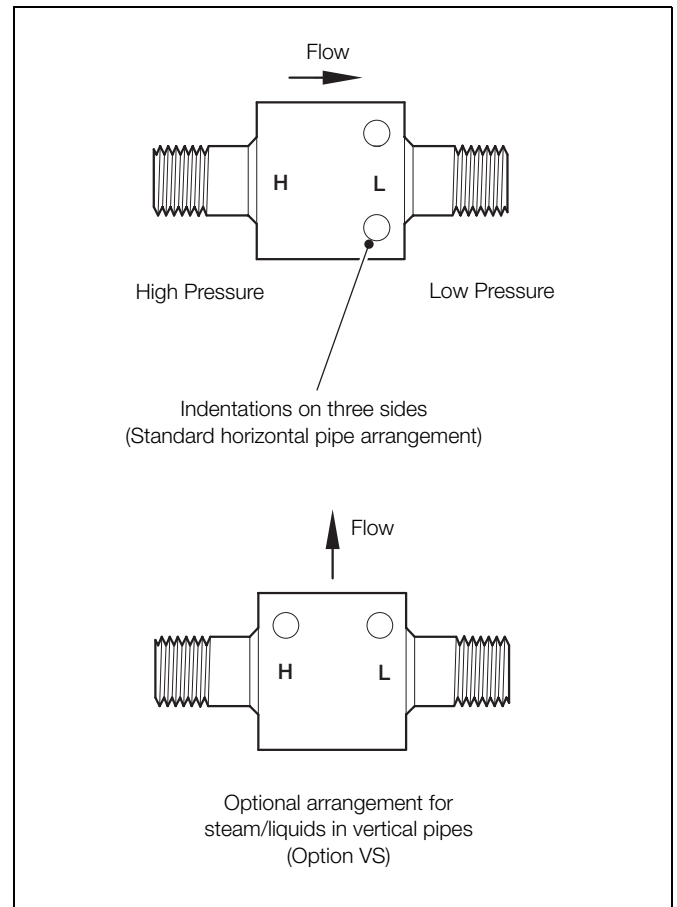

Fig. 2.1 TORBAR Head Flow Alignment Marks
The direction of flow is indicated by the small indentations on the head – see Fig. 2.1. The indentations must be positioned on the downstream side of the flow and are clearly visible from various directions and distances. Exceptions to this are Models 121, 122, 123, 511 and 512, and Direct Mount Head (DM) options, – refer to the relevant drawing for indication of alignment with direction of flow.
Referring to Fig. 2.1, install TORBAR:
To ensure an equal head of gas, liquid or steam in both instrument lines, TORBAR option VS is designed so that the instrument lines are in the horizontal plane when the instrument is installed (see Fig. 2.1).
12. Turn the TORBAR until the indentation marks on the head are positioned downstream of the flow – see Fig. 2.1.
12. Turn the TORBAR until the indentation marks on the head are positioned downstream of the flow – see Fig. 2.1 on page 3.